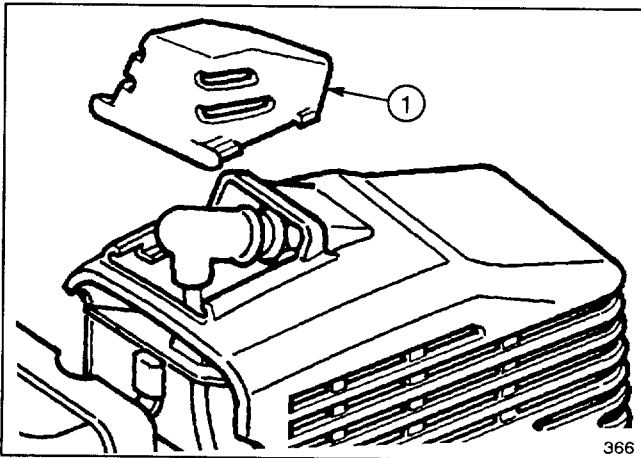

Figure 17
1. Stop engine. Remove spark plug cover by squeezing sides and slide off engine cover (Fig. 17). Pull wire off spark plug.